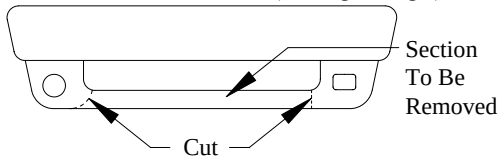

FIGURE 1
****See Note Below and Figure 1**
① Qty. (2) Hex Bolt, 1/2"-13 x 1-3/4"
② Qty. (2) Conical Washer, 1/2"
③ Qty. (2) Handle Nut, 1/2"
④ Qty. (4) Hex Bolt, M10 x 1.50 x 45
****NOTE: All Mazda vehicles and '93 through -97 Ford Rangers with fog light option require extensive fascia cut. See Figure 1. CONSULT VEHICLE OWNER.**